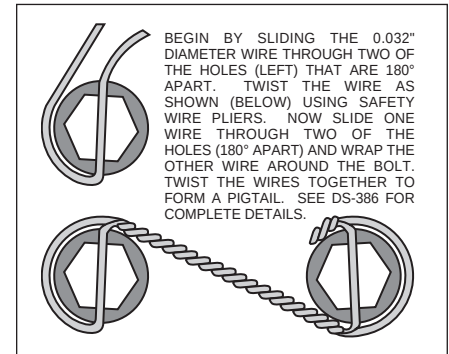

Figure 3. Safety Wire Diagram
- The caliper mounting bracket assembly (1) should be installed first with clean, dry threads on the mounting bolts. The bracket must tighten squarely against the inboard side of the caliper mount bosses on the spindle body. Inspect for interference from casting irregularities, machining ridges, burrs, etc. Slide bolt (2) through the hole in the spindle body where the OEM bolt was removed. Use one thin shim (4) between the bracket and spindle during initial trial fitting. Later, after the caliper, pad and rotor alignment have been checked, and any necessary shims have been put in place, the mount bolts (2) should be coated with red *Loctite*® 271 and torqued to 47 ft-lb.
- With the larger I.D. side of the rotor (5) facing away from the hat (6), bolt rotor (5) to hat (6) through the backside of the rotor using washers (7) and bolts (8). Using an alternating sequence, apply red *Loctite*® 271 to the threads and torque bolts to 155 in-lb. For an added measure of security, the bolts may be safety wired using standard 0.032 inch diameter stainless steel safety wire as shown in Figure 3. Please refer to Wilwood's data sheet DS-386 (available at www.wilwood.com/Pdf/DataSheets/ds386.pdf) for complete safety wire installation instructions. Slide the rotor/hat assembly onto the spindle. Install a couple of lug nuts (hand tighten) to keep the rotor/hat assembly in place while continuing with the installation.